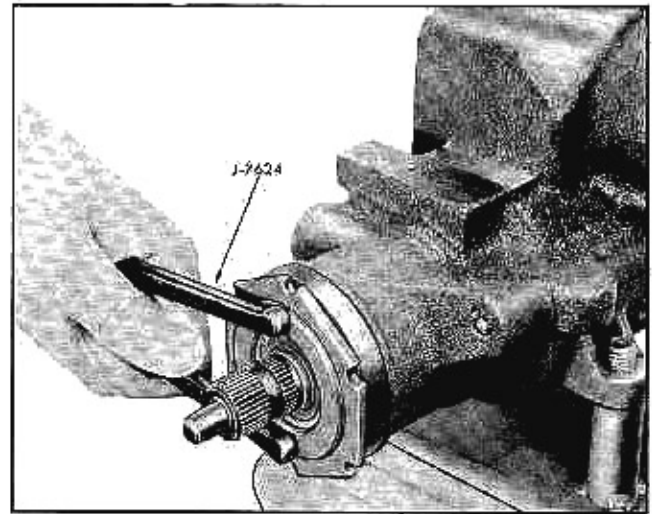

Fig. 9A-10 Removing Adjuster Plug Assembly
3. Remove adjuster plug assembly using a spanner as shown in Fig. 9A-10.